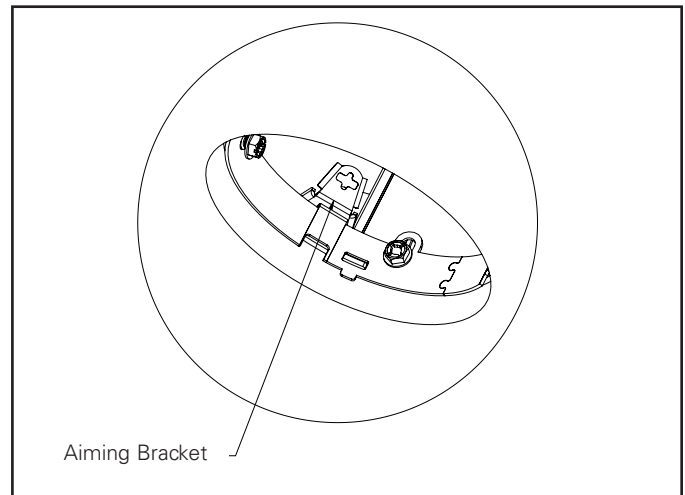

Figure 16B.
2. Turn the mechanism to the desired position using the aiming bracket and screwdriver (Figure 16B). Tighten wing screw.